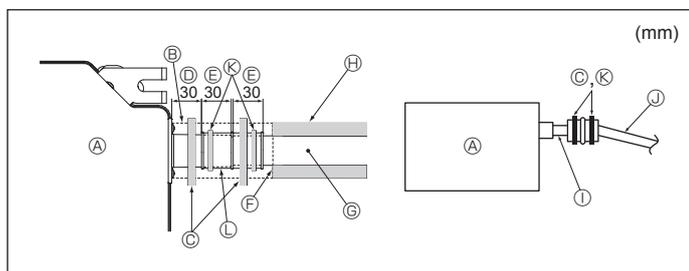

Fig. 6-2
- ① O.D.  $\phi$ 38 PVC TUBE for grouped piping (9 mm or more insulation)
1. Connect the drain socket (supplied with the unit) to the drain port. (Fig. 6-2)